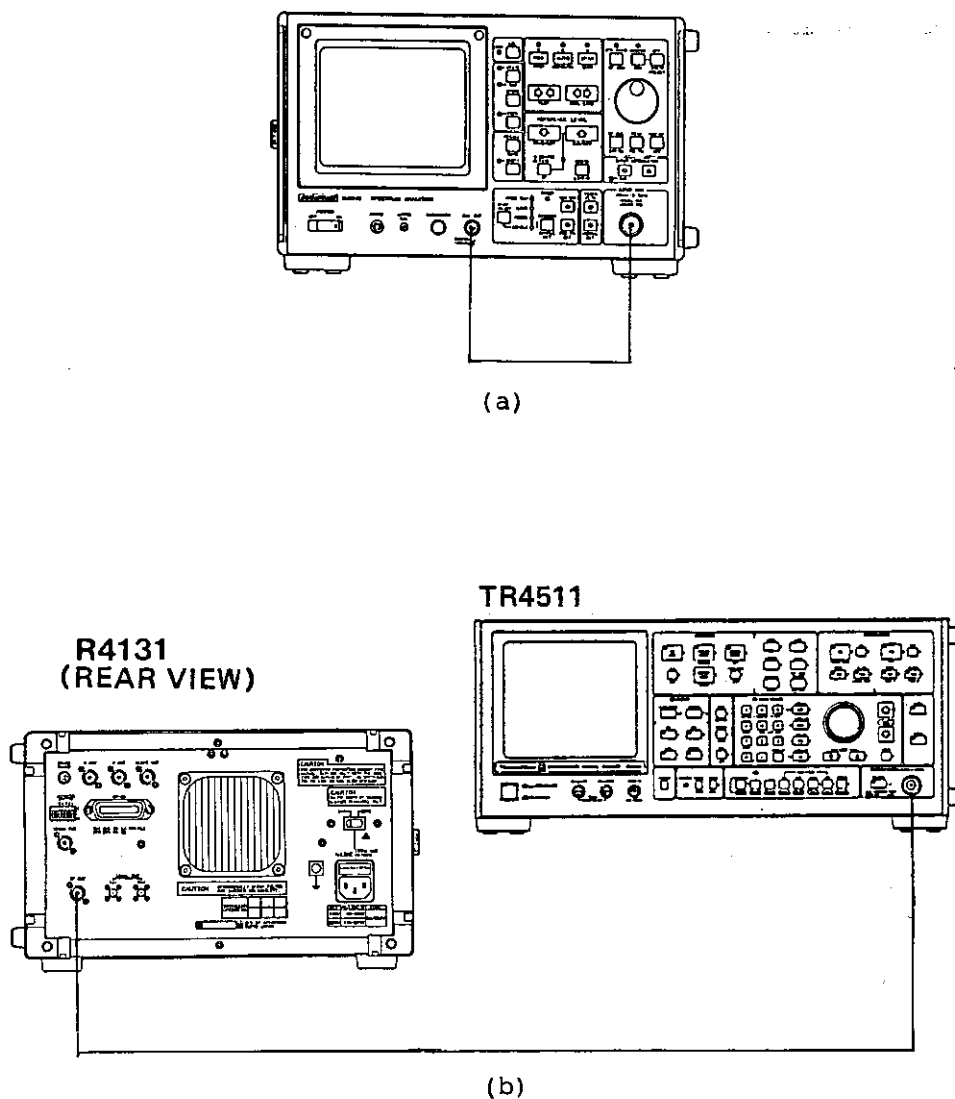

Figure 11-12 Resolution Bandwidth Accuracy Test Setup
(2) Procedure
- ① Connect the calibration signal of the spectrum analyzer to the INPUT connector as shown in Figure 11-12 (a).
- ⑧ In testing resolution bandwidths 3 kHz to 1 kHz, remove the top cover of the spectrum analyzer and apply 3.58 MHz, -20 dBm signals to the IF FILTER IN connector from the synthesized signal source. (See Figure 11-12 (b).)
- ⑨ Set the spectrum analyzer resolution bandwidth to 3 kHz and adjust the output frequency of the synthesized signal source for the maximum waveform peak by varying the output frequency at the 10 Hz place.
- ⑩ Adjust the output level of the synthesized signal synthesized source to bring the spectrum analyzer display level to 1.5 divisions above the horizontal axis in the center of the display screen.
- ⑪ Reduce the output frequency of the synthesized signal source until the waveform peak displayed on the display screen coincides with the horizontal axis in the center of the display screen. Record this output frequency as f1.
- ⑫ Next, increase the output frequency of the synthesized signal source until the waveform peak rises once above the horizontal axis in the center of the display screen, and then correspondingly falls. Record this output frequency as f2.
- ⑬ Determine the 3 dB bandwidth by calculating f2 minus f1. Check that this value falls between 2.4 and 3.6 kHz (3 ±0.6 kHz or less).
- ⑭ Test resolution bandwidths 1 kHz according to Table 11-5. Keep records of the resultant 3 dB resolution bandwidth values for use in the resolution bandwidth selectivity test described in Section 11.8.
- ④ Turn the AMPTD CAL control to bring the signal peak to the top graticule on the display screen.
- ⑤ Turn the TUNING dial to position the 60 dB point for the best reading.
- ⑥ Measure and record the 60 dB bandwidth. Check that the ratio of the 60 dB bandwidth to the 3 dB bandwidth measured in Section 11.7 is 15 or less.
- ⑦ Repeat steps ③ to ⑥ for resolution bandwidths of 300 kHz to 10 kHz as well.
- ⑧ Connect the output of the synthesized signal source to the spectrum analyzer IF FILTER IN connector as shown in Figure 11-12 (b).
- ⑨ Set the output frequency of the synthesized signal source to 3.58 MHz (CW), -20 dBm.
- ⑩ Adjust the output frequency of the synthesized signal source for a maximum reading on the R4131 display screen, and set the signal to be on the reference graticule.
- ⑪ Increase the output frequency of the synthesized signal source until the signal level is reduced 60 dB (6 graticules).